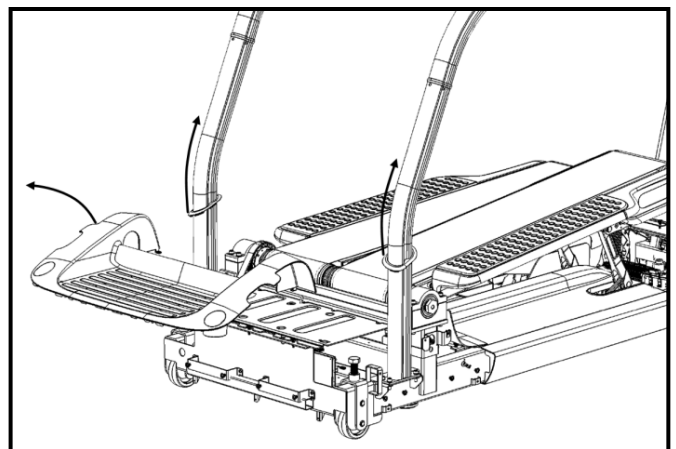

Fig. 22
21. Dislodge the rear step shroud from the TreadClimber base (Fig. 22) and move the handrail grommets up the handrails.